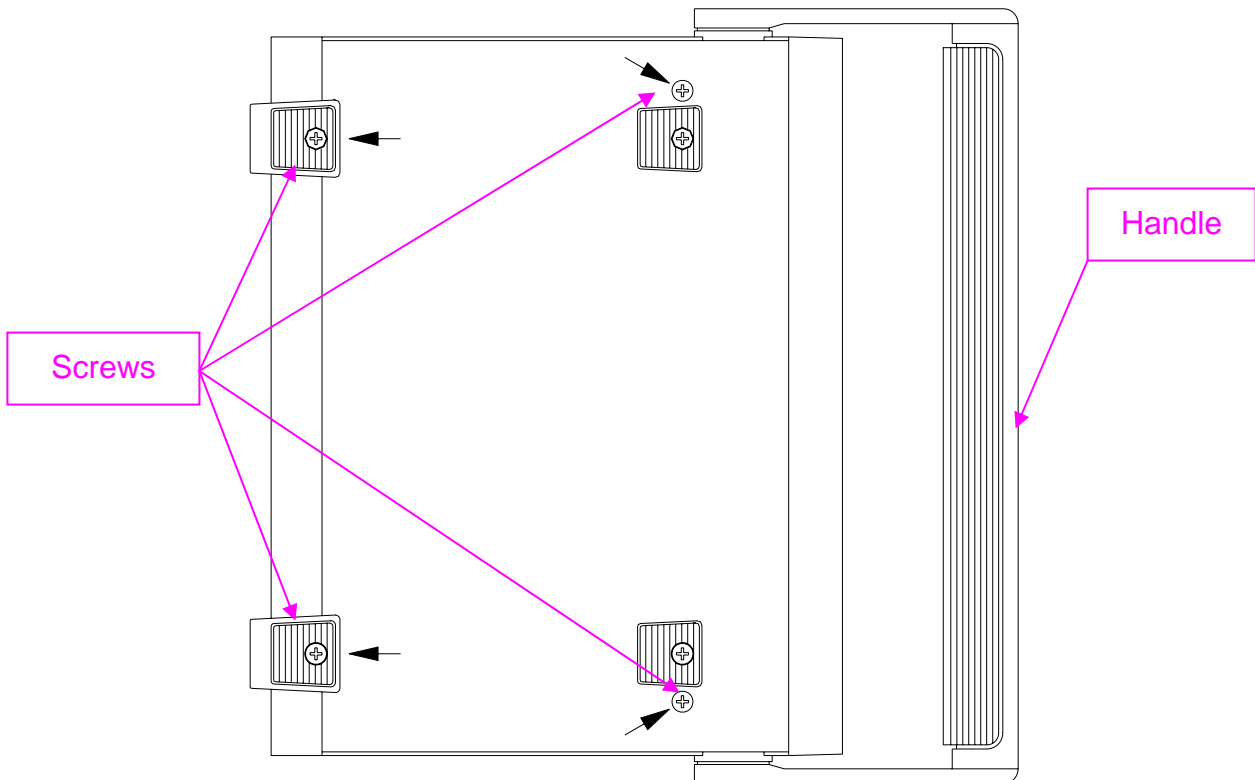

Figure- 30. Fuse Replacement
2. Loosen screws with suitable screwdriver and remove cover as Figure-30.